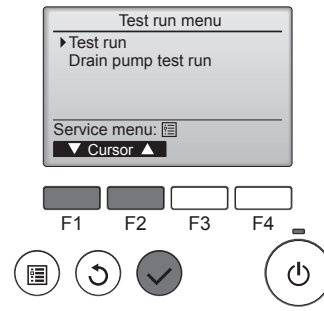

Fig. 7-5
- ④ Select "Test run" with the **[F1]** or **[F2]** button, and press the button. (Fig. 7-5)